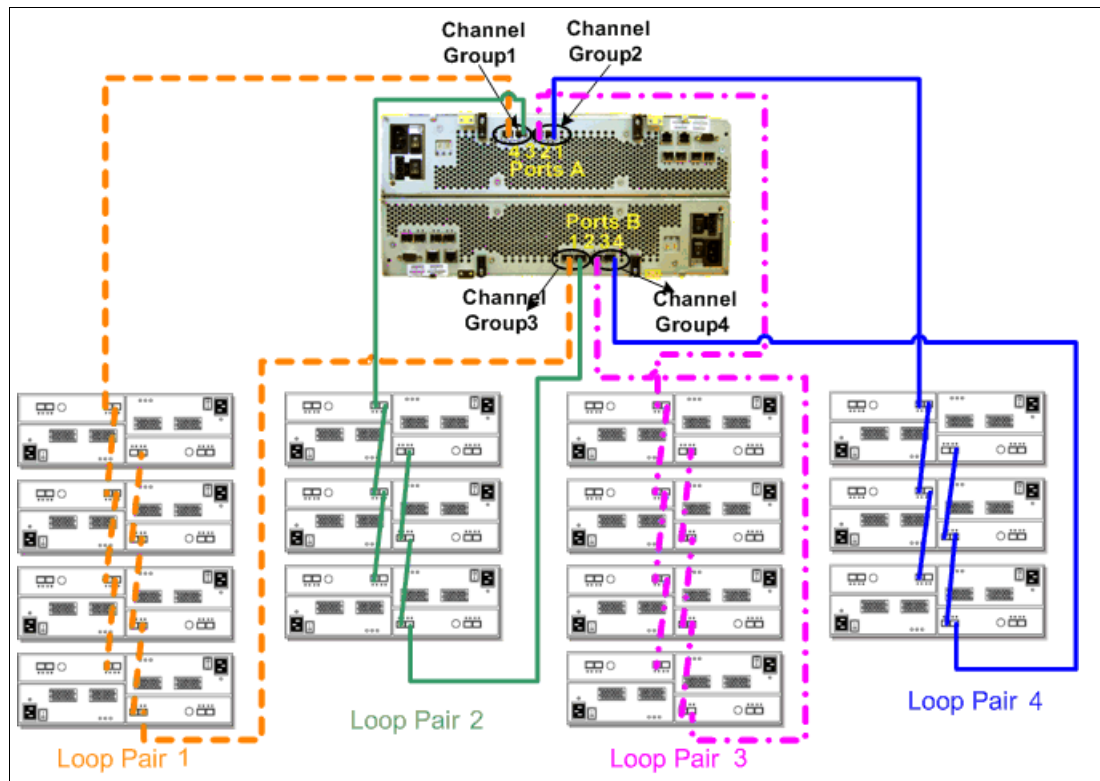

Figure 3-36 Cabling with the DS4800 and EXP810 enclosures
There are three rules for the EXP810 cabling (Figure 3-36 on page 100):
- Also, as previously stated, spread expansion enclosures among the four loops pairs. Using only the EXP810 enclosures, a maximum of 14 enclosures can be connected to a DS4800. See Figure 3-36.